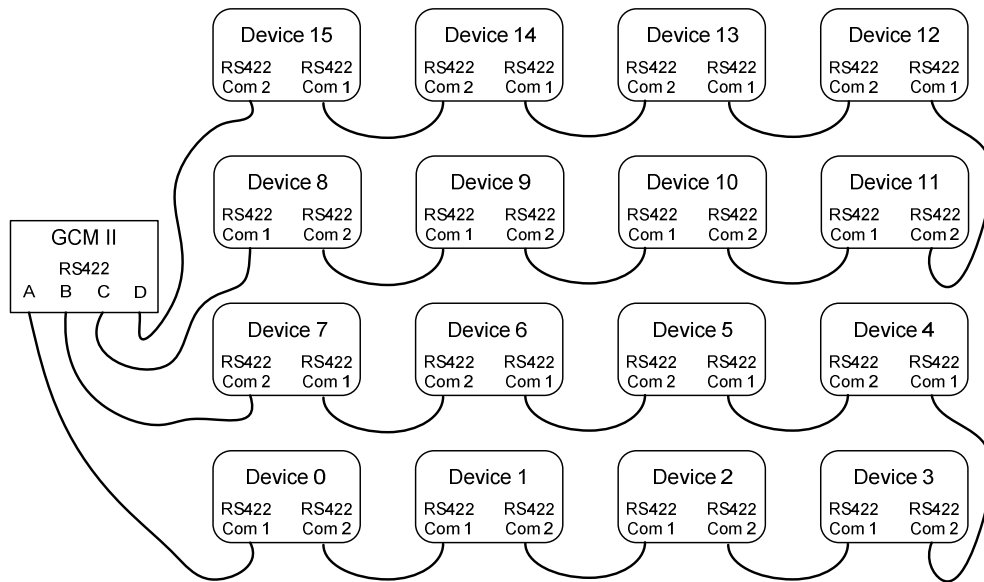

Figure 39 – Fault Tolerance Configuration
If the “Fault Tolerance” button is “Enabled” there will be only two “Start Address” and “End Address” fields. The Fault Tolerance configuration is a closed loop as shown in Figure 39 where the communications from Port A of the GCM II connects to Port B and Port C connects to Port D through the devices. Figure 39 shows a configuration using eight (8) devices that will provide a one (1) second alarm delivery. Additional devices on the line will extend the alarm delivery by 125mS per device. *Note: a maximum of 32 devices can be connected to the GCM II.*